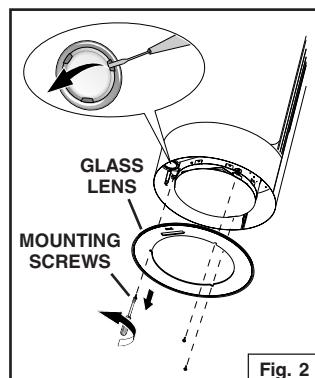

Fig. 2
1. Remove the glass lens by removing the (3) mounting screws. Fig. 2.